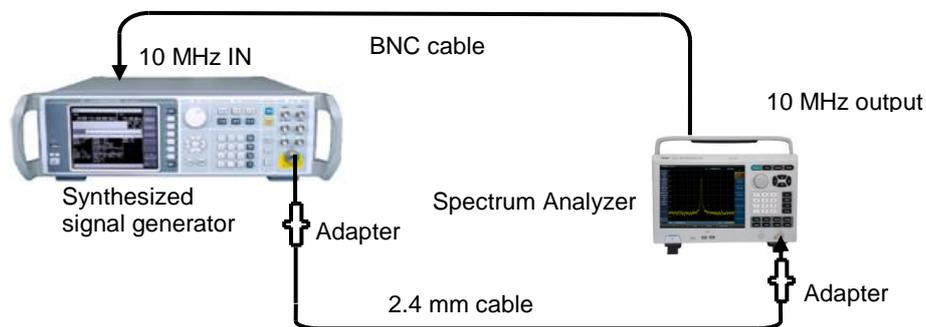

Fig 11-3 Span Accuracy Testing Setup
- 1) Connect the test instrument as shown in Fig 11-3. The spectrum analyzer provides a reference frequency for the synthetic signal generator.